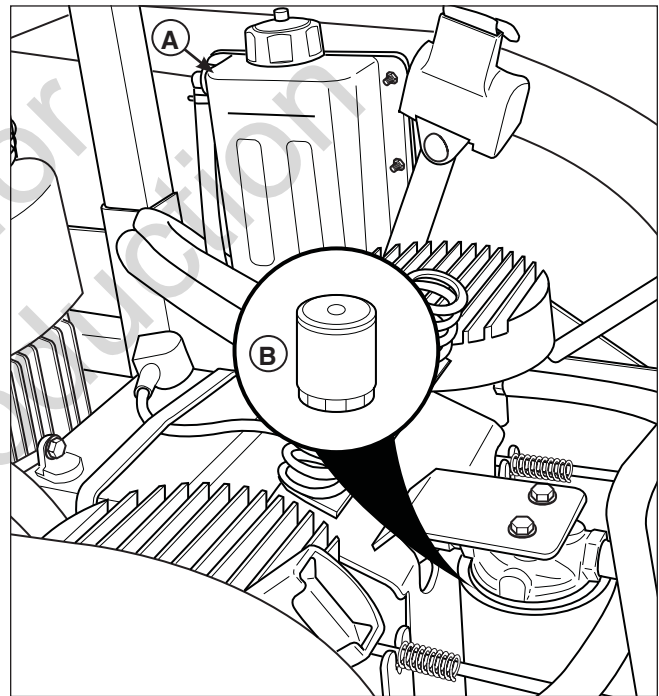

Figure 26. Battery Compartment
1. Locate the transmission oil filter (B, Figure 26) at the rear of the battery compartment under the seat.